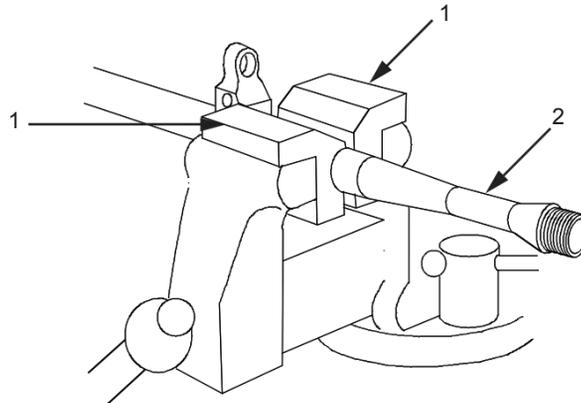

Figure 18. Barrel Assembly in Vise.
7. Secure barrel assembly (Figure 18, Item 2) in a vise with protective barrel jaws (Figure 18, Item 1).